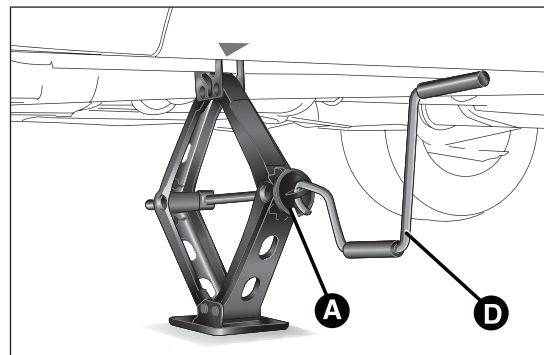
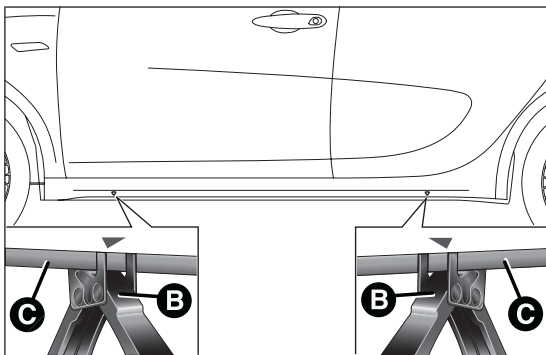

fig. 118
fig. 119
- ❑ operate the device A fig. 118 to extend the jack until the top of the jack B fig. 119 fits correctly into the side member C (next to the mark on the side member);
- ❑ fit handle D fig. 118 into the housing in device A, operate the jack and raise the car until the wheel is a few centimetres from the ground;